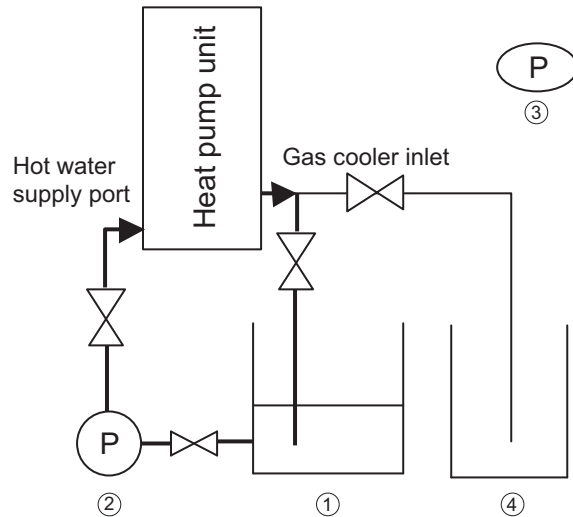

Figure 3 Cleaning water circuit
(2) Remove the water inlet pipe ② by removing the saddle ③ and quick fastener (for straight pipe) ④.
(3) Remove the gas cooler inlet pipe ⑥ by removing the quick fastener ⑤ (for reduced pipe).
(4) Install the pipe as shown below, using a quick fastener ⑤ (for reduced pipe).
Set up the cleaning water circuit as shown in Figure 3. Numbers ① through ④ in the figure indicate the following items.
- ① Container (for cleaning)
- ② Pump
- ③ Submersible pump (placed in the container ① for exhaust water)
- ④ Container for exhaust water (also used to temporarily drain out cleaning solution when it starts foaming.)